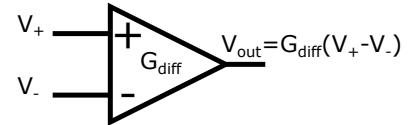

Figure 1.26: A Differential Amplifier.
*differential amplifier* may be used. As diagrammed in figure 1.26, a differential amplifier has two inputs and a single output corresponding to the difference between the signals. This is operation can be seen as first inverting one input and then adding it to the other. The input which is inverted  $V_-$  is fitting called the “inverting input”, while the normal input is verbosely titled the “non-inverting input”,  $V_+$ . The multiplication factor is known as the “differential gain”  $G_{\text{diff}}$  and is defined through the relation